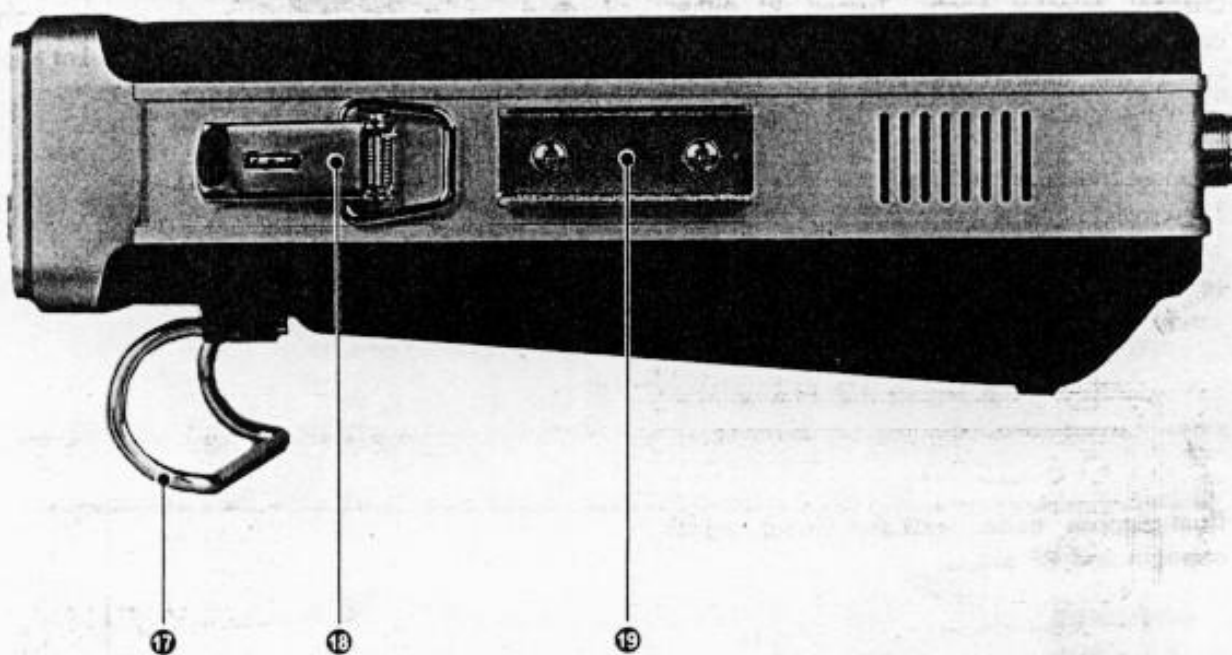

Fig. 3
## 2.3 SIDE PANEL (Refer to Fig. 3)
If you operate the TR-8300 as a fixed station, attach the supplied Stand-off bracket ① to it as illustrated in Fig. 3. The TR-8300 is designed so as to be used with a DC power supply having a current capacity of around 3.5A at the rated operating voltage of 13.8V.